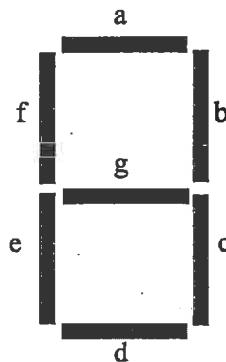

Figure Q4
4. Design a logic circuit required to drive a 7-segment display when driven by a BCD input. Assume that the display requires an active-HIGH input to turn on an LED segment. The seven segments are shown in Figure Q4.